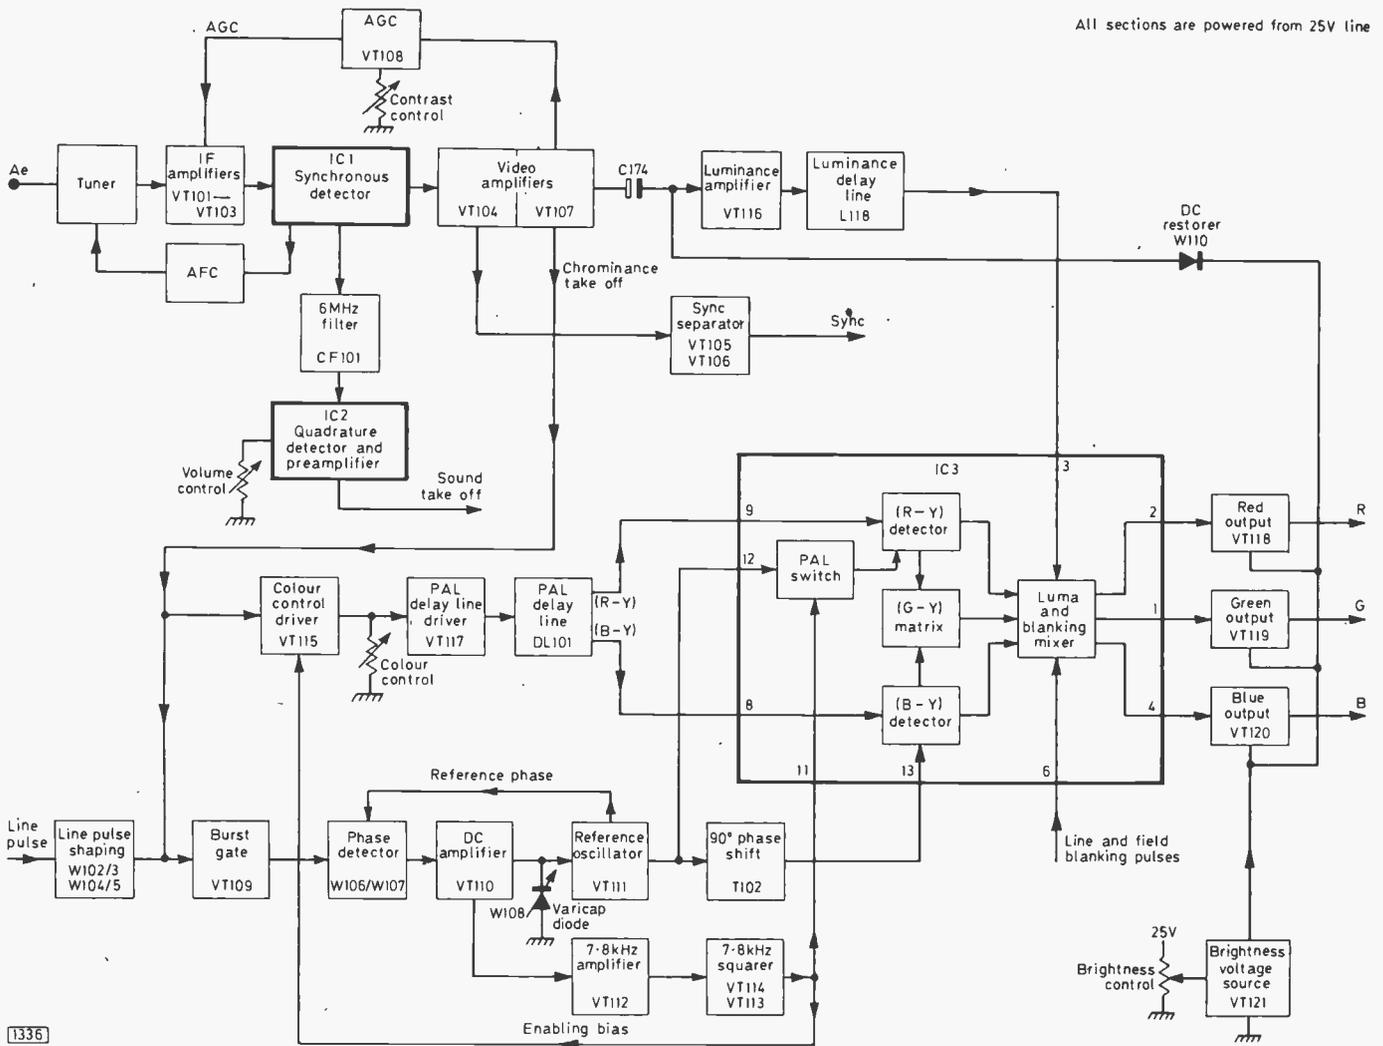

Fig. 1: Block diagram of the i.f./decoder/RGB output panel.
i.f., chroma and video drive circuits and is a large panel mounted on the left-hand side (viewed from rear) of the chassis. The contents of this board are shown in block form in Fig. 1.
Each section shown in Fig. 1 will be dealt with in turn. Note particularly the use of i.c.s for vision and sound detection and for chroma processing. The whole board is powered from the stabilised 25V line – which shoots up to 45V if the stabiliser transistor on the power board goes short-circuit! Fig. 5 shows the position of the various test points. (Our photos show panel PC651.)